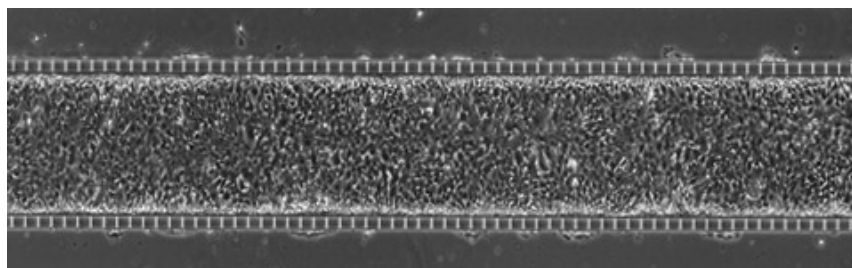

Figure 4. An example of microfluidic device with lung epithelial cells at Day 3 after a media change.
13. Check the cells under the microscope at least every 2-3 days (**Figure 4**) to see if the HBE culture has become confluent.